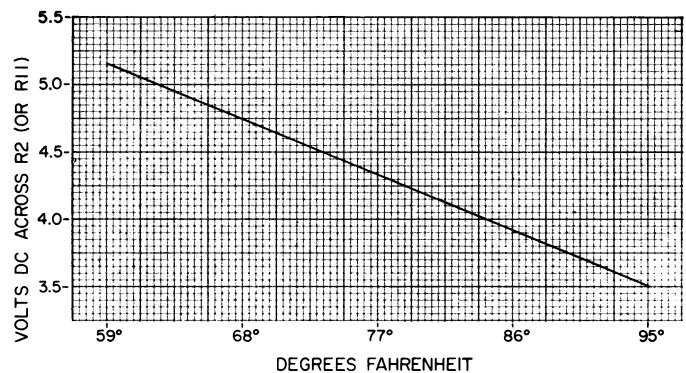

Figure 3
6. Adjust R9/R16 for the correct voltage across R2/R11 (± 0.3 -volt) according to the room temperature as shown in Figure 3.
5. Adjust R9/R16 for the correct voltage across R2/R11 (± 0.3 volt) according to the room temperature as shown in Figure 3, while keeping the output voltage at 4.18 volts by using the 500-ohm pot.